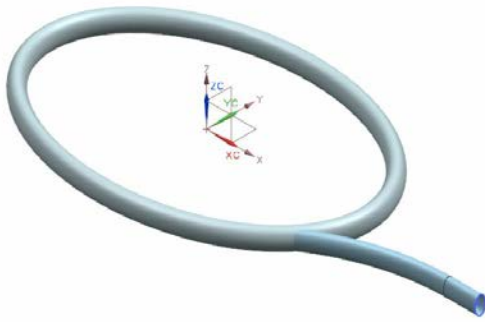

Figure 10-116 The surface model after creating the sweep surface
6. Select the guide curve and then choose the **OK** button; the sweep surface is created. Hide the sketches that are used to create the sweep surface. The resulting surface model is shown in Figure 10-116.